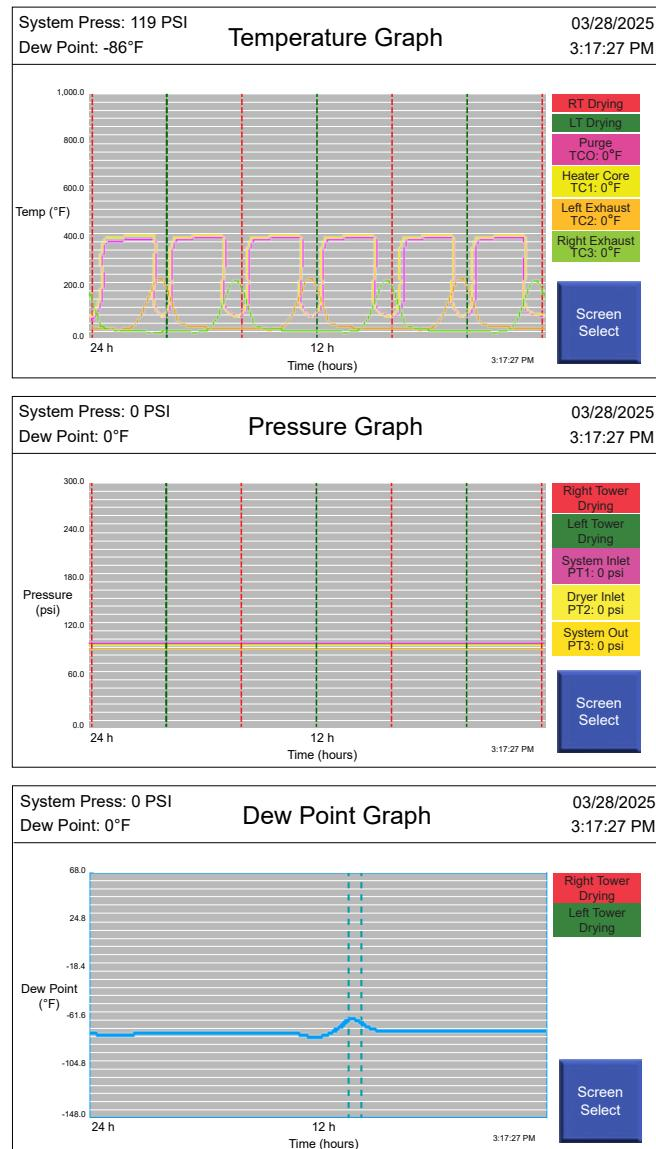

Figure 5.4 — 24 Hour Data Graphs
- **24 Hour Data Graphs** – Click the corresponding blue button below to access graphs for temperature, pressure, or dew point for the past 24 hours (refer to Figure 5.4).